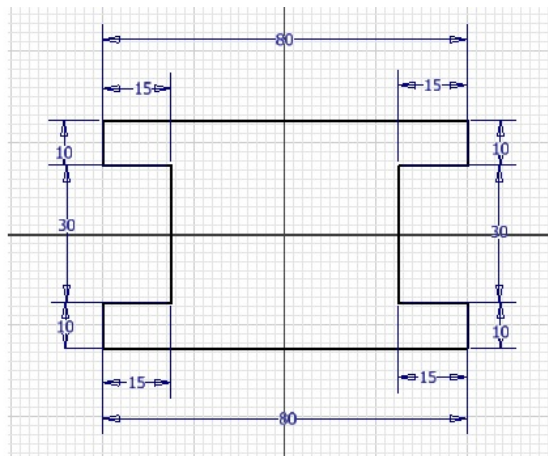

Figure 2-68 Sketch of the outer loop
- Draw the outer loop by specifying the length and angle lines by using the Dynamic Input method, refer to Figure 2-68.
17. Right-click to display the Marking Menu and choose **OK** from it to exit the **Line** tool. The sketch of the outer loop is shown in Figure 2-68. You need to arrange the positions of dimensions in the sketch by dragging them to view the sketch clearly.